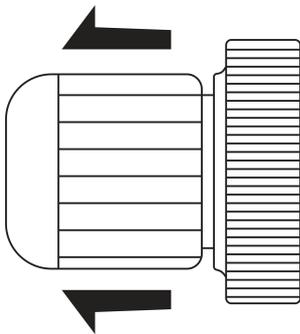
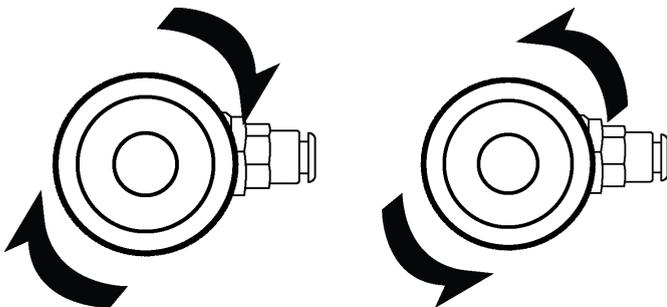

Fig 1. Water Pressure Regulator
Fig 2. Increase Pressure
- To adjust the water pressure regulator first pull the knob outwards (**Fig 1**). You should feel and hear a click as it comes out. Twist it clockwise (to increase the pressure) or anti-clockwise (to decrease the pressure) depending on what needs to be done (**Fig 2 & 3**).